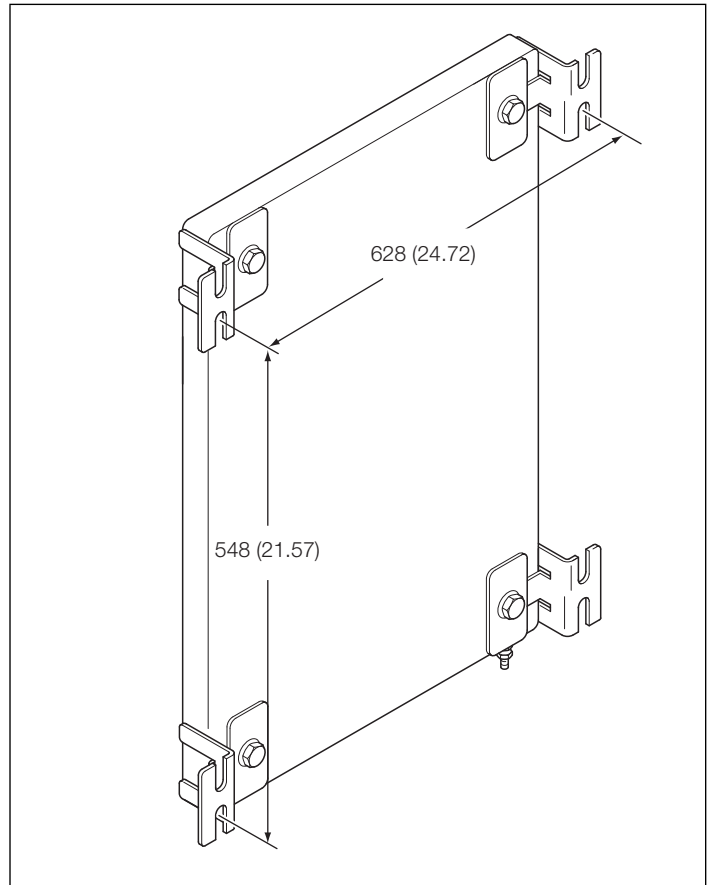

Fig. 2 Fitting enclosure mounting brackets
1. Referring to Fig. 2, fit the supplied mounting brackets to the enclosure as shown.